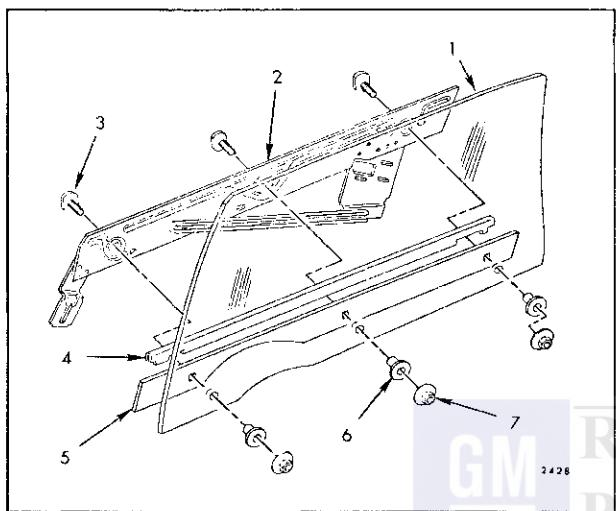
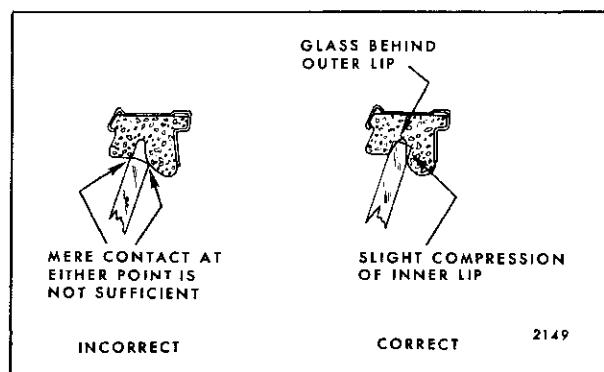

Fig. 6-68—Front Door Window Assembly - "B & C"
Fig. 6-69—Window to Side Roof Rail
Figure 6-68 is an exploded view of the front door window assembly and identifies the various components and their assembly sequence.
If inner panel cam or up stop adjustment does not correct condition, loosen glass to sash channel attaching bolt nuts (Fig. 6-68) and reposition glass on sash channel. The sequence for making this adjustment is to, first, obtain flush alignment between lower sash channel and outer strip assembly at the beltline. Then, loosen glass bolt nuts and adjust glass to obtain required seal at side roof rail weatherstrip. Figure 6-69 illustrates the proper glass to weatherstrip relationship for a good seal.
- b. Adjust stops "1 and 3" up or down for proper glass to side roof rail weatherstrip contact (Fig. 6-69).